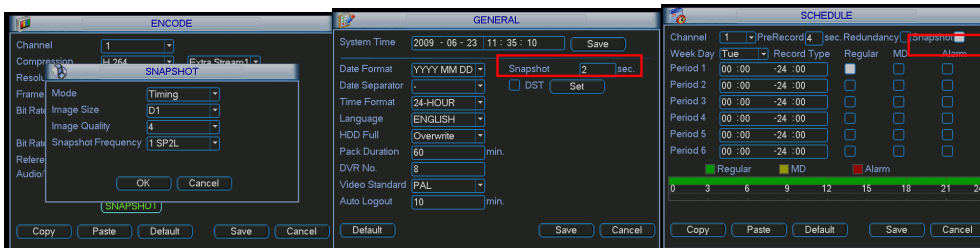

Figure 3-8
3.3.4.1 Timing Mode: Timing mode will create a snapshot at a configurable interval. In the General menu configure the upload interval to define how often snapshots are uploaded to the FTP server. In the Schedule menu, enable the snapshot function. Please refer to the following figure for examples. See Figure 3-8.